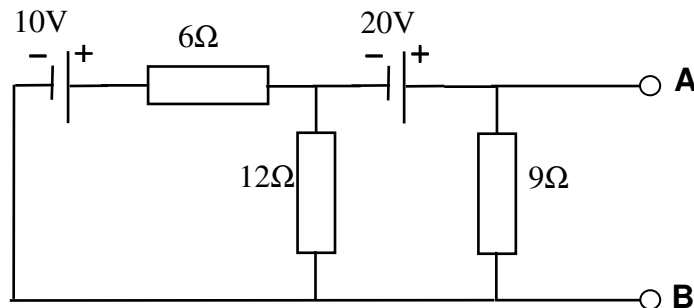

Figure 4.1
- a. Figure 4.1 shows a network which is to be used as a source for a load resistor which is to be connected between A and B (Load not shown).